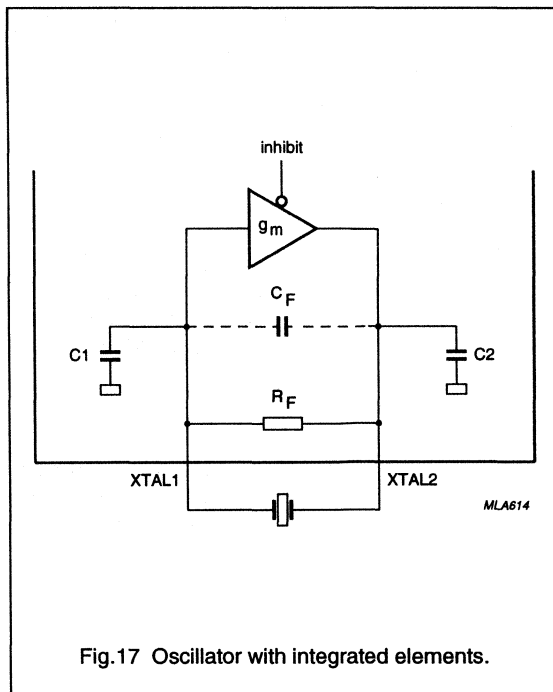

Fig.17 Oscillator with integrated elements.
The on-chip oscillator basically consists of an inverter stage which includes a feedback resistor and load capacitors (see Fig.17). In most applications, a quartz crystal will be connected between XTAL1 and XTAL2. Alternatively, a ceramic resonator or an inductor may be used as a timing element.
**Table 5** Notation to relationship (see Figs 17 and 18).